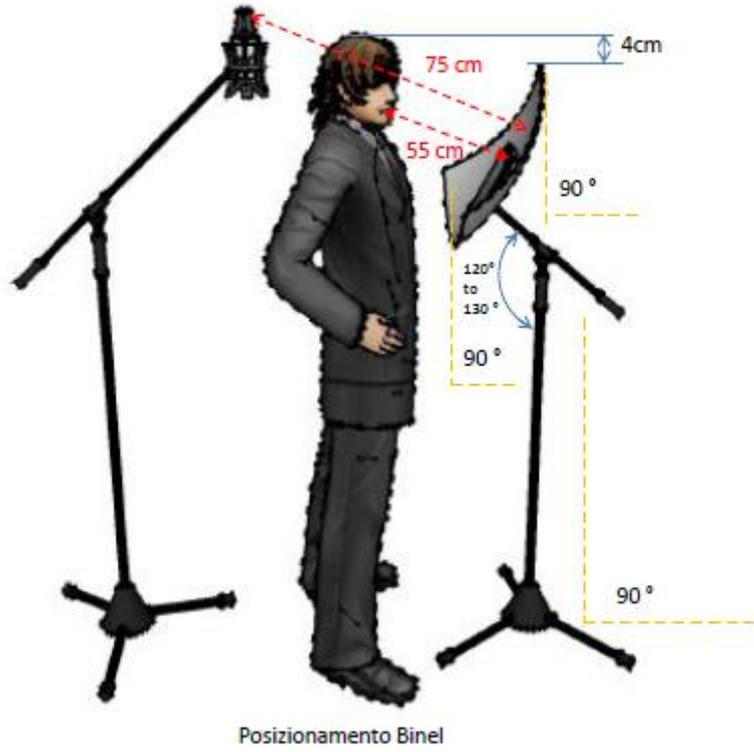

Fig. 2
1. **If you use it for the voice**, adjust the microphone stand M according to your height, with the top of the Binel corresponding to the forehead just above the eyes, but at a distance of about 50-55 cm from it. Settle in front of the Binel as indicated and speak below or phrased; when you feel that the sound reflection is perfect, remember the position without going too far. (Fig. 2)